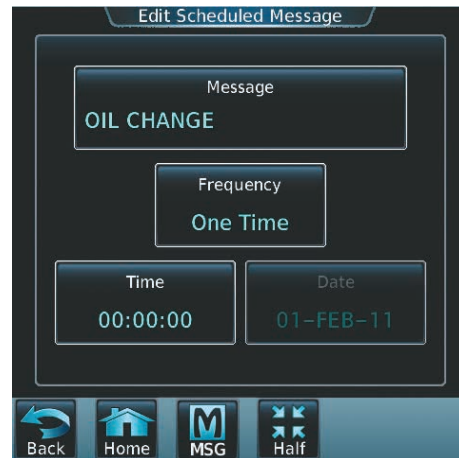

Figure 8-96 Touch Time Button
- 8) Touch the **Time** Button as seen in Figure 8-96.